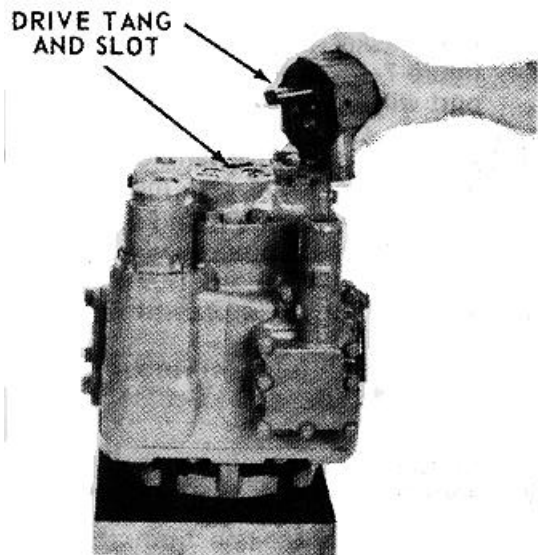

FIGURE 7-49.
- b. Line the drive tank on charge pump shaft with the slot on the main pump shaft (see figure 7-49). The charge pump should assemble freely with the main pump. Do not force charge pump into position. Hold aluminum spacer in position with fingers to prevent its dislodging.
- c. Torque the four (4) mounting bolts 10-11 ft. -lbs. (1 38-1.52 kg-m).